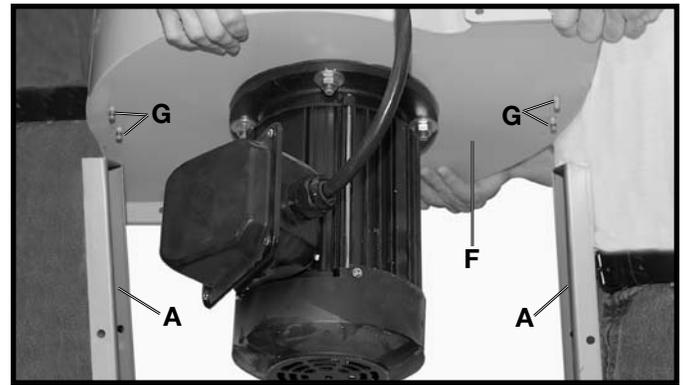

Fig. 10
4. **NOTE: FOR MODEL 50-866 MAKE SURE THAT THE FRONT OF THE MOTOR ASSEMBLY IS ATTACHED TO THE SUPPORT WITH THREE PREDRILLED HOLES IN IT, (THESE HOLES ARE WHERE THE CONTROL BOX IS TO BE MOUNTED).** Carefully place the motor/blower assembly (F) Fig. 10, onto two side supports (A), which were assembled in **STEP 2**. **CAUTION: The motor/blower assembly (F) is extremely heavy. It is recommend that two or more people lift the motor/blower assembly onto the side supports. Make certain the four pre-assembled threaded studs (G) are inserted into the four top holes of the side supports (A).**
5. Fasten motor/blower assembly (F) Fig. 10, to side supports (A). Place a 5/16" flat washer onto the stud that was inserted through the side support, place a 5/16" lockwasher onto the stud, thread a 5/16-18 hex nut onto the stud and tighten securely. Repeat this process for the three remaining studs.